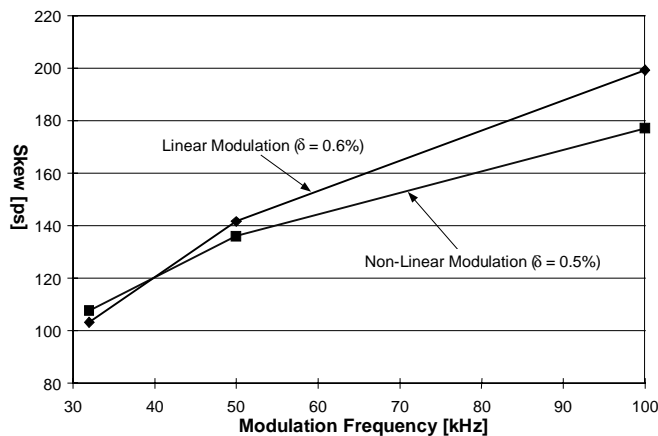

Figure 8-3 Downstream PLL tracking skew and modulation frequency
8. The modulation frequency of SSC is required to be in the range of 30-50 KHz to avoid audio band demodulation and to minimize system timing skew. The modulation frequency is desired to be in the range of 30-33 KHz for downstream PLLs to accurately track the frequency modulation. The downstream PLL tracking skew, i.e., the accumulative phase difference between the downstream PLL input and output clocks, is shown in Figure 8-3, as functions of modulation frequency, modulation profile, and spread amount. This plot is obtained through PLL behavior simulations assuming a jitter-free ideal modulated input clock to the PLL. The parameters of the simulated PLL are: